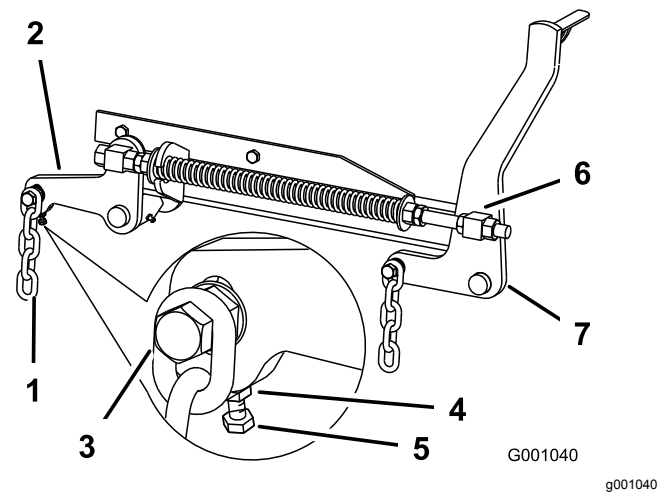

Figure 98
7. If the measurements at positions **B** or **C** are not correct, loosen the bolt attaching the rear chain to the rear-support arm (Figure 98).
8. Loosen the jam nut under the rear-support arm and adjust the adjustment bolt to get a measurement of 80 to 83 mm (3-1/8 to 3-1/4 inches); refer to Figure 98.
7. Loosen the front swivel jam nuts, at the front of the right and left swivels, approximately 13 mm (1/2 inch) (Figure 98).
8. Adjust the lift nuts on both the left and the right side of the machine to achieve 6 to 10 mm (1/4 to 3/8 inch) lower in front at **A** than in the rear at **B** (Figure 98).